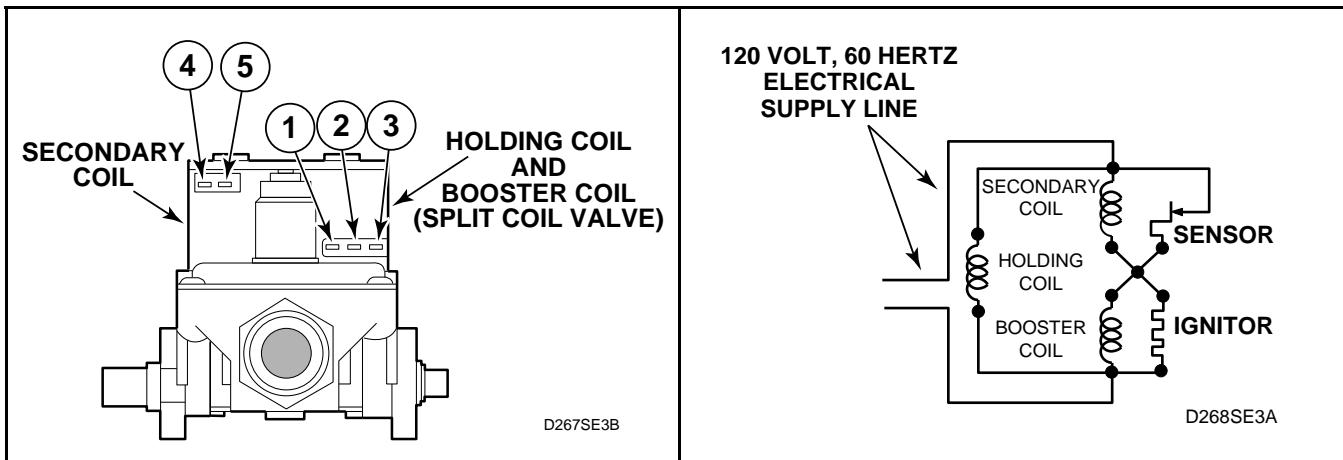

Figure 8
(Gas Models – Refer to Figure 8.)
- f. Set test meter to read AC voltage and apply meter probes into terminals on the dryer harness plug that would correspond to terminals "1" and "2" on the coil. *Figure 8*. Meter should register line voltage in all Fabric settings, except NO HEAT which should read "zero" VAC.